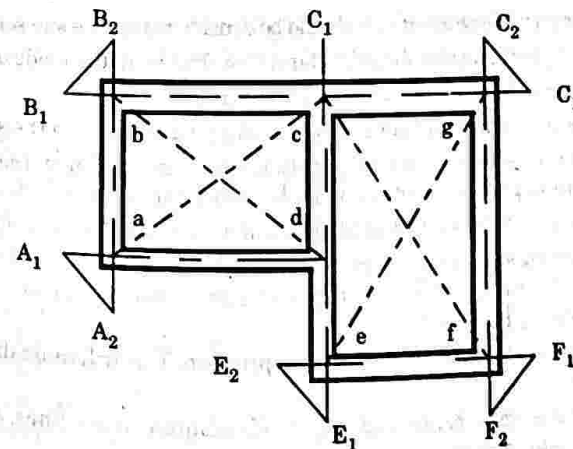

Fig. 3.4.1
8. For example (Fig. 3.4.1), we have to set out the plan on the ground. For this, we have to follow the given procedure :